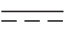

Figure 87 - Communicator Software - Flash Loader Fail
- 10.8.1 If the **Flash Loader Fail** dialog box (refer to Figure 87) is displayed when you click **Load with Flash Loader**, click **OK**: